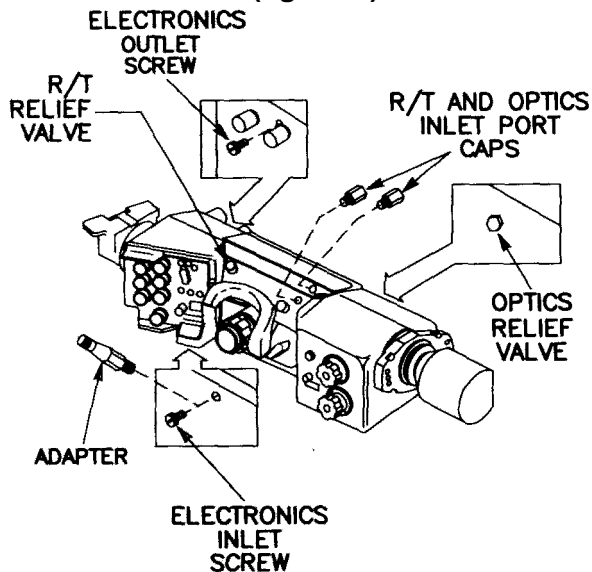

Figure 3-42 AN/VVG-2 Receiver - Transmitter
b. AN/VVG-2 Laser (fig. 3-42).